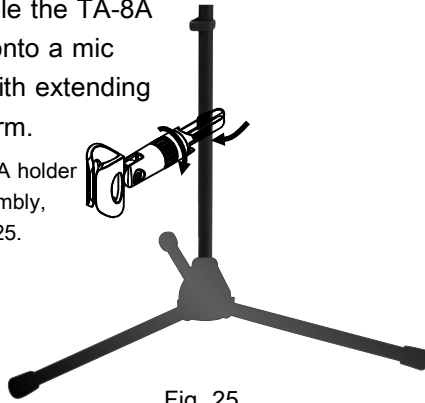

Fig. 25
(A) TA-8A holder assembly, Fig. 25.